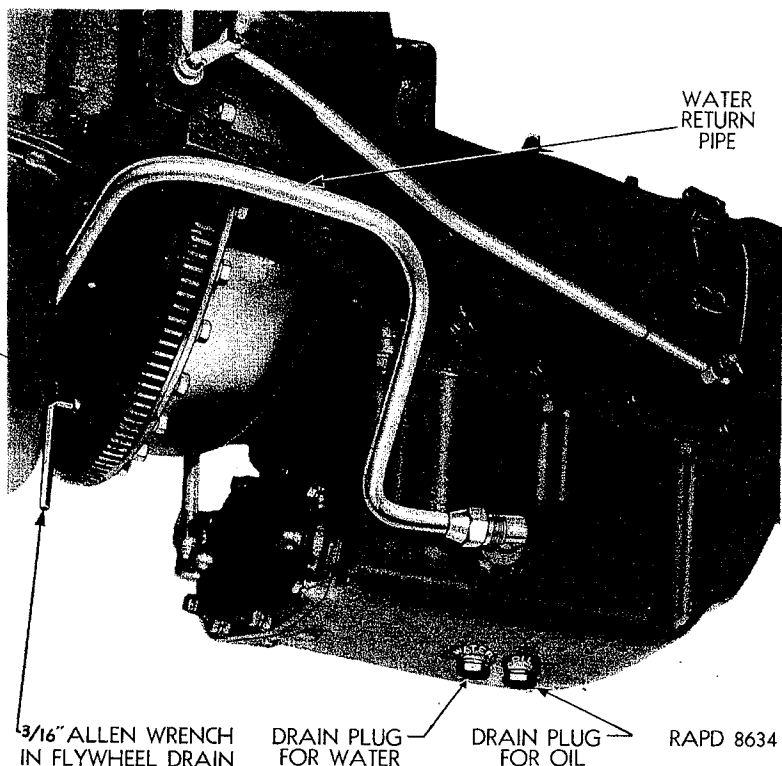

Figure 20—Transmission Oil & Water Drain Plugs
- (1) Remove the cover plate on the opening in the bottom of the hull at the front of the engine compartment, using  $\frac{1}{2}$ " and  $\frac{9}{16}$ " wrenches.
- (2) Remove the flywheel housing bottom pan from each engine, using  $\frac{1}{2}$ " wrench.
- (3) Remove the two oil drain plugs, one in the front of the flywheel, using a  $\frac{3}{16}$ " Allen wrench, the other in the bottom of the transmission case (marked oil), (See Fig. 20) and allow to drain completely.